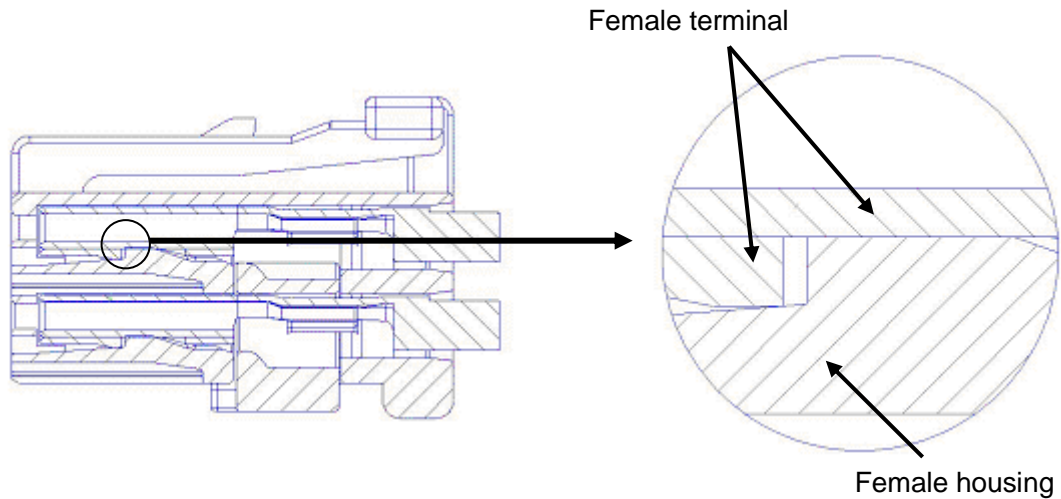

Fig.15: Inserting the female terminal into the housing (cross section)
- ③ Hold the wire part and insert the female terminal in a straight line to engage with the lance securely until audible click is heard. (Fig.15)